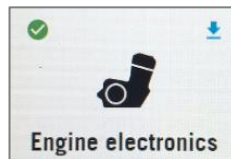

Fig. 3
4. Select Connectivity Control Unit and the ECU icon will appear and should have a blue arrow in the corner of the icon to signify that the Automatic Flash update is available (Fig. 3). If the arrow is missing, the flash file may already be updated to current. Contact the Dealer Services Department if you have questions.